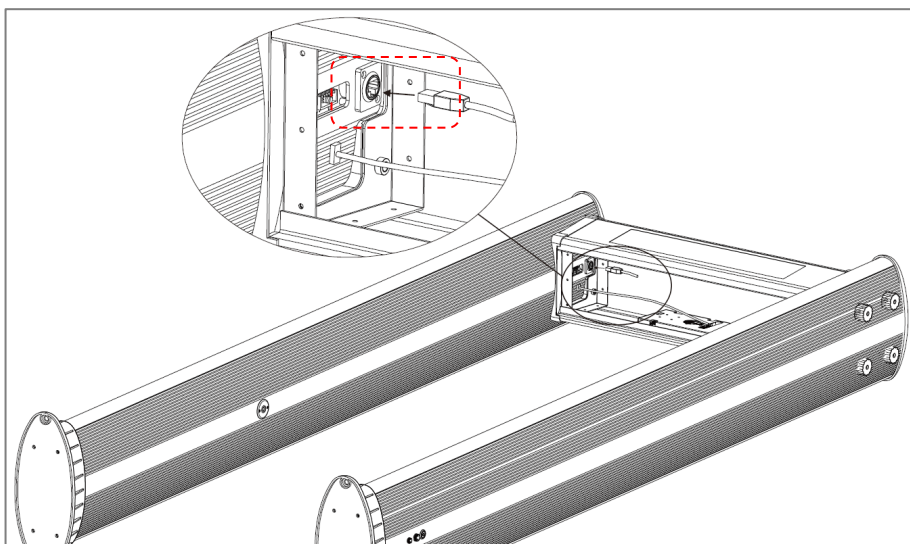

Figure 3-5
**Step 5:** Connect the network line with the door panel, as shown in figure 3-5 below.